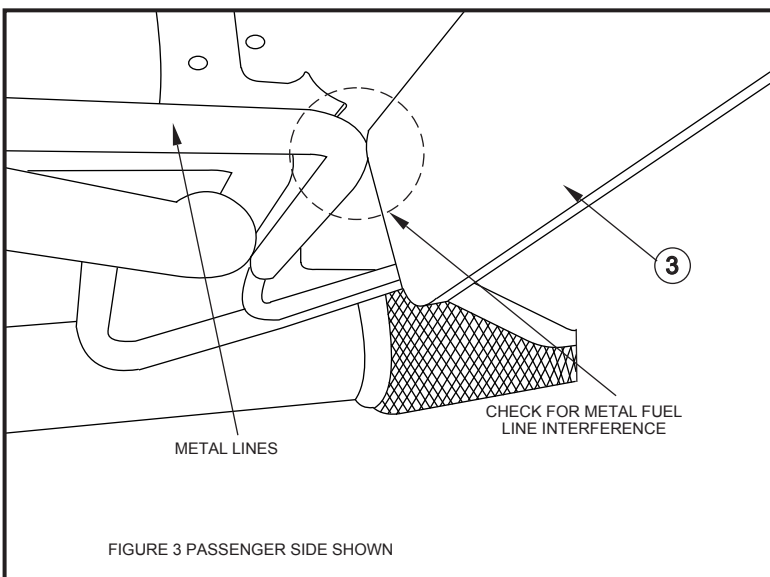

FIGURE 3 PASSENGER SIDE SHOWN
- STEP 9. Repeat installation for passenger side. Make sure that the front passenger bracket does not interfere with the metal fuel line. **SEE FIGURE 3.**